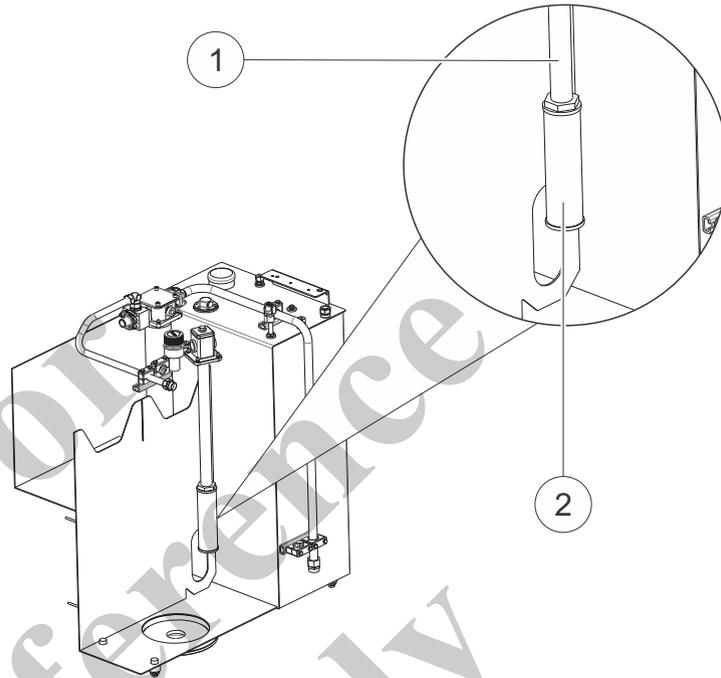

Fig. 212 Leakage oil filter
2	Remove the return pipe (1) in Fig. 212.
3	Unscrew the filter element (2) in Fig. 212 and remove it from the return pipe.